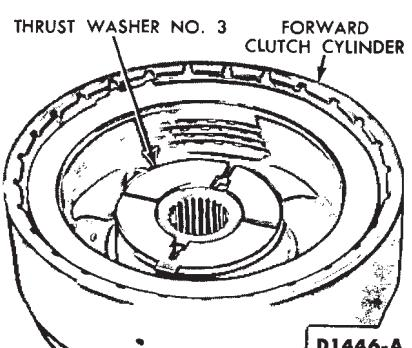

FIG. 105—Number 3 Thrust Washer Location
24. Install thrust washer No. 3 on the forward clutch (Fig. 105).